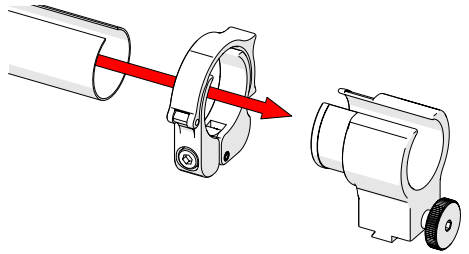

Fig. 182 - Slide tube around mount
2. Slide the clamp around the tube first and then slide the tube around the outside of the cable management dovetail mount (Fig. 182). Align the zipper opening and the cable management dovetail mount opening.